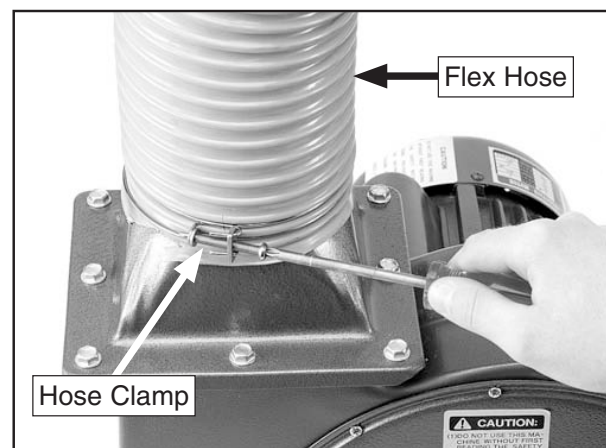

Figure 31. Attaching flex hose onto collector body outlet.
7. Slip a loosened hose clamp over each end of the flex-hose, and attach the ends over the collector and collector body outlet. Tighten each hose clamp until snug, as shown in **Figure 31**.